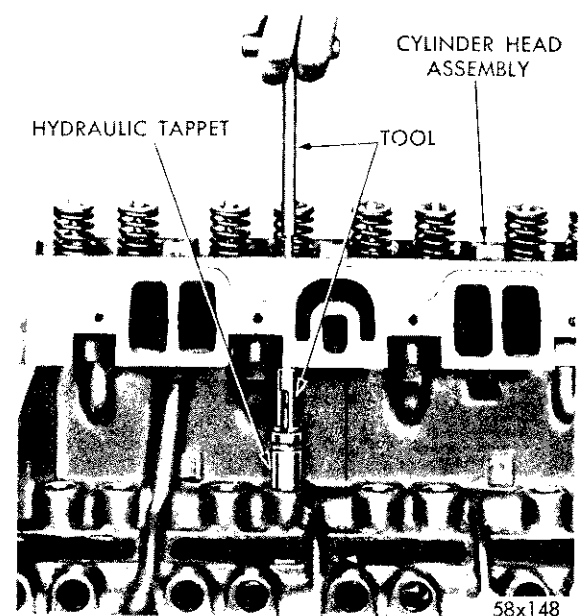

Fig. 20—Removing Tappet Using Tool C-3661
(2) Remove rocker arms and shaft assembly.
(3) Remove the push rods and place them in their respective holes in Tool C-3068.
(4) Slide puller Tool C-3661 through push rod opening in cylinder head and seat tool firmly in the head of tappet.
(5) Pull tappet out of bore with a twisting motion, as shown in Figure 20.